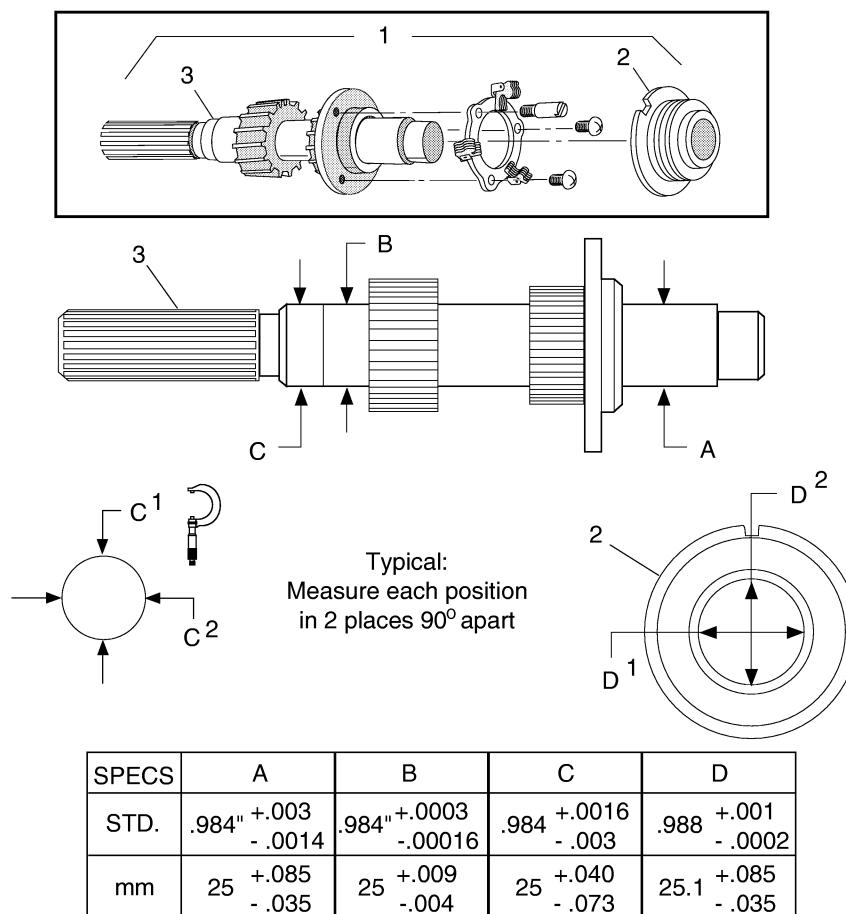

Fig. B-7 Input Shaft Inspection
1. Inspect the input shaft assembly (1) (Ref Fig. B-7 on page B-4).